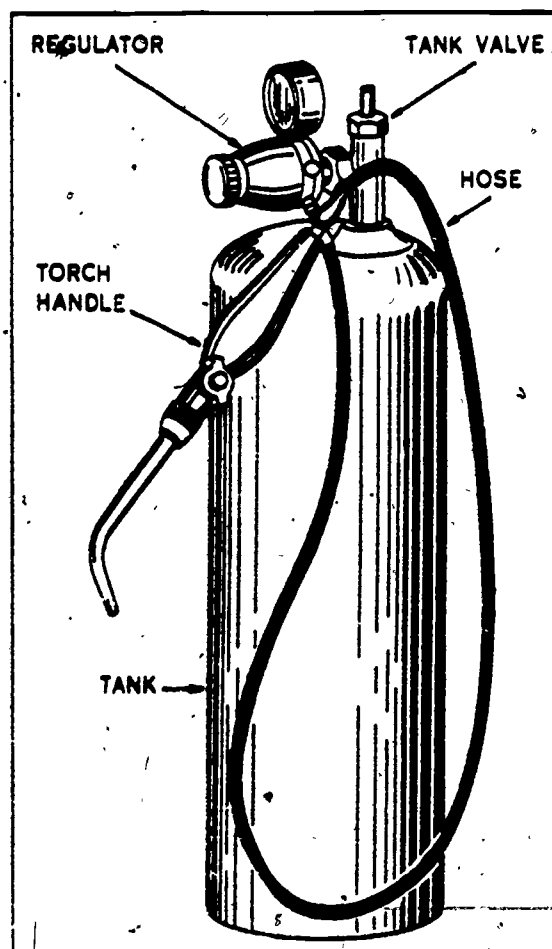

Figure 1-32. Air-acetylene torch
**Soldering equipment.** A high-temperature concentrated flame that will quickly bring the fitting to the melting point of solder is the only heat that is necessary for "sweating" fittings on copper tubing. Fifty-fifty solder (50 percent lead and 50 percent tin) melts at 360° F. and is freeflowing at 415° F. Silver solder, which is used for high-pressure lines, has a much higher melting point and is free flowing at over 1000° F. Figure 1-31 illustrates a propane torch that is ideal for sweat soldering small copper lines. When soldering large lines, if it is at all possible, use an air-acetylene torch, like the one illustrated in figure 1-32. This type of torch consists of a small portable cylinder of acetylene gas, a regulator, hose, and torch. The air-